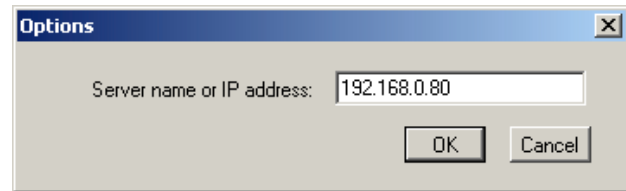

figure 50.3: Options window
- 1 Go to *File > Options*. A screen similar to the one in figure 50.3 appears.